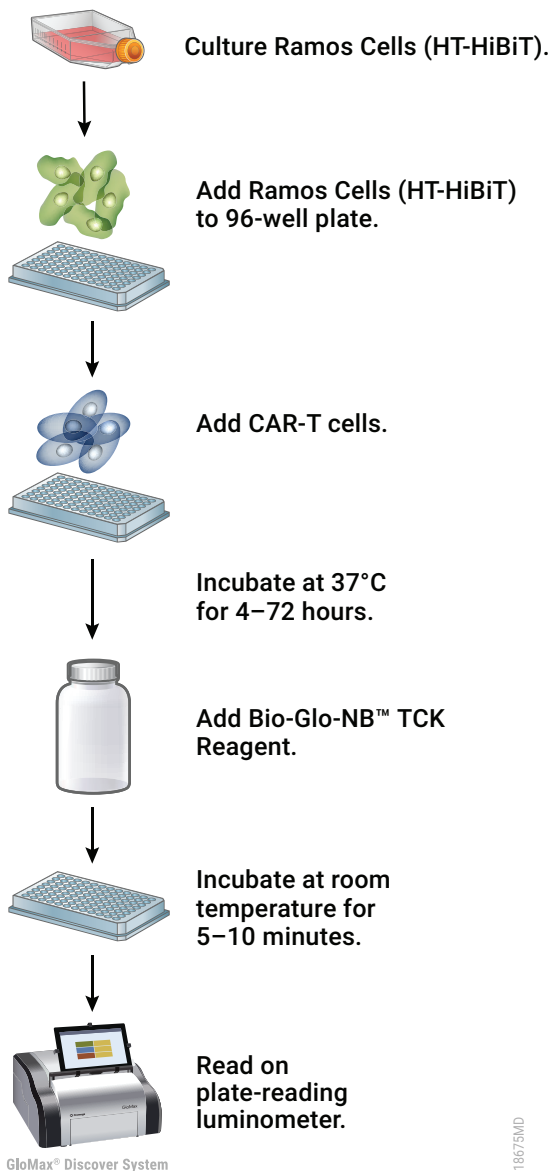

Figure 12. Schematic protocol for CAR-T assay using Ramos Cells (HT-HiBiT).
This procedure illustrates the use of Ramos Cells (HT-HiBiT) to test CAR-T effector cells against a reference sample in a single cytotoxicity assay (Figure 12). Each test and reference CAR-T is assayed in triplicate, in an eight-point effector-to-target (E:T) ratio dilution series, in a single 96-well assay plate using the inner 60 wells. Other experimental and plate layouts are possible but may require further optimization.
3. Using a multichannel pipette, add 40 μ l of the appropriate CAR-T dilution to wells B3–G10 of the assay plates according to the plate layout in Figure 12. Add 40 μ l of CAR-T assay buffer to MR and SR control wells (B2–G2 and B11–G11, respectively).